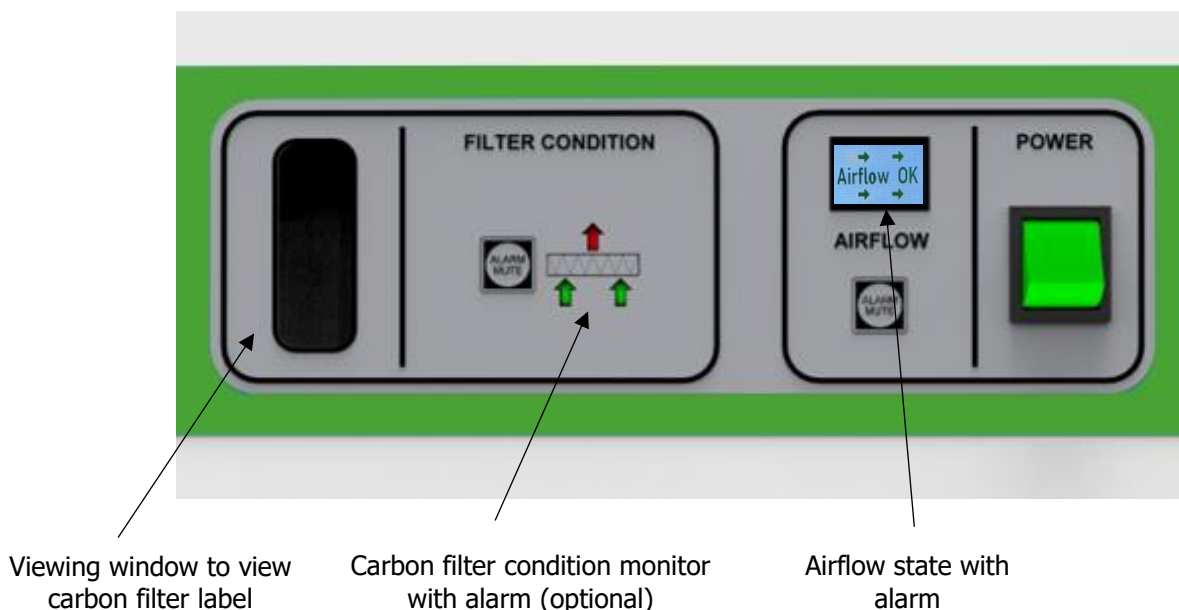

Figure 3
- The cabinet will be supplied with the carbon filter installed. To identify the carbon filter type look through the small window on the left side of the controls label to view the filter label, see Fig 3. Ensure the correct carbon filter has been installed for the intended use.
| 4) Control panel (see Fig 3) | 12) Pre-filter (see Fig 4) |
If the unit is fitted with a Filter Monitoring system, as shown in **Fig 3** below, an additional alarm with LED status will be provided. This system will indicate when the carbon filter needs to be changed by activating an alarm and illuminating a red LED warning light. When this occurs, you must change the carbon filter as soon as possible.